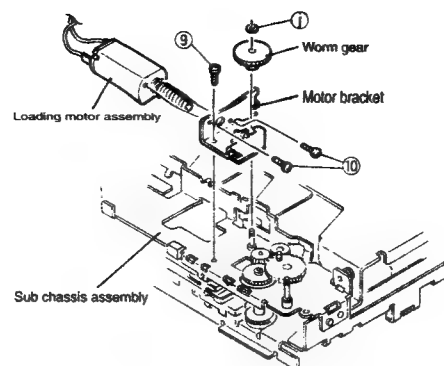

Fig. 21
(Fig. 21)
4. Remove the one screw ⑨ fixing the loading motor assembly. (Fig. 21)
5. Remove the two screws ⑩ fixing the loading motor assembly. (Fig. 21)